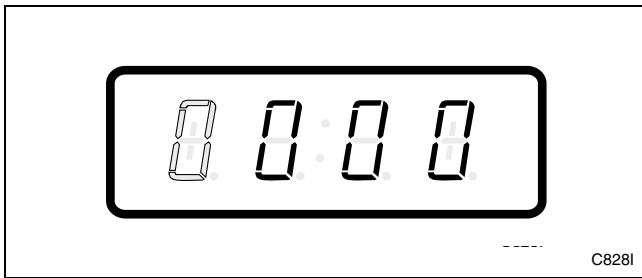

Figure 66
6. Press the START (enter) keypad to enter the fifth digit and display remaining four digits. The active digit will flash one second on and one second off. Refer to *Figure 66*.